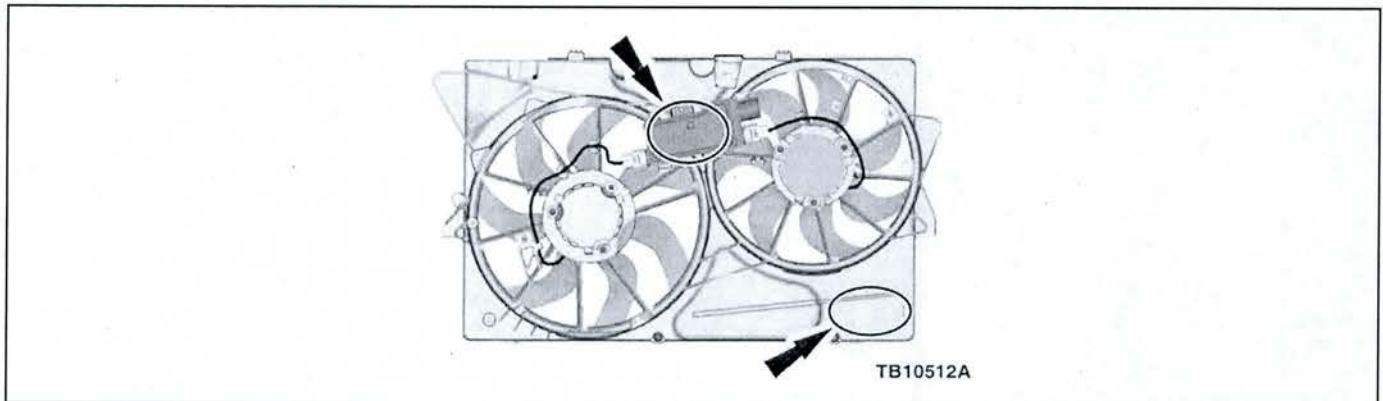

Figure 1 - Article 13-12-21
- a. No - please be sure to check the fan assembly for being original equipment manufacturer (OEM). (Figure 1)